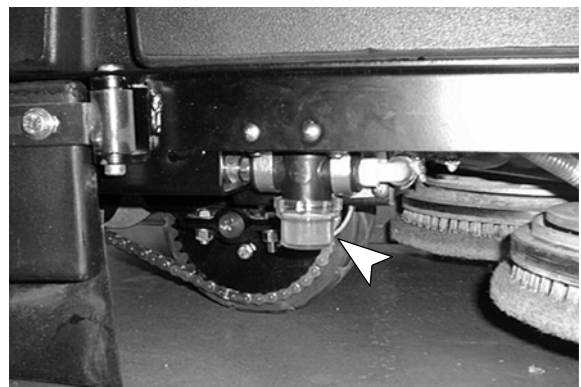

FIG. 23
1. Hinge open right side skirt, remove filter bowl and clean screen. Be certain that solution tank is empty prior to removing filter bowl (Figure 23).